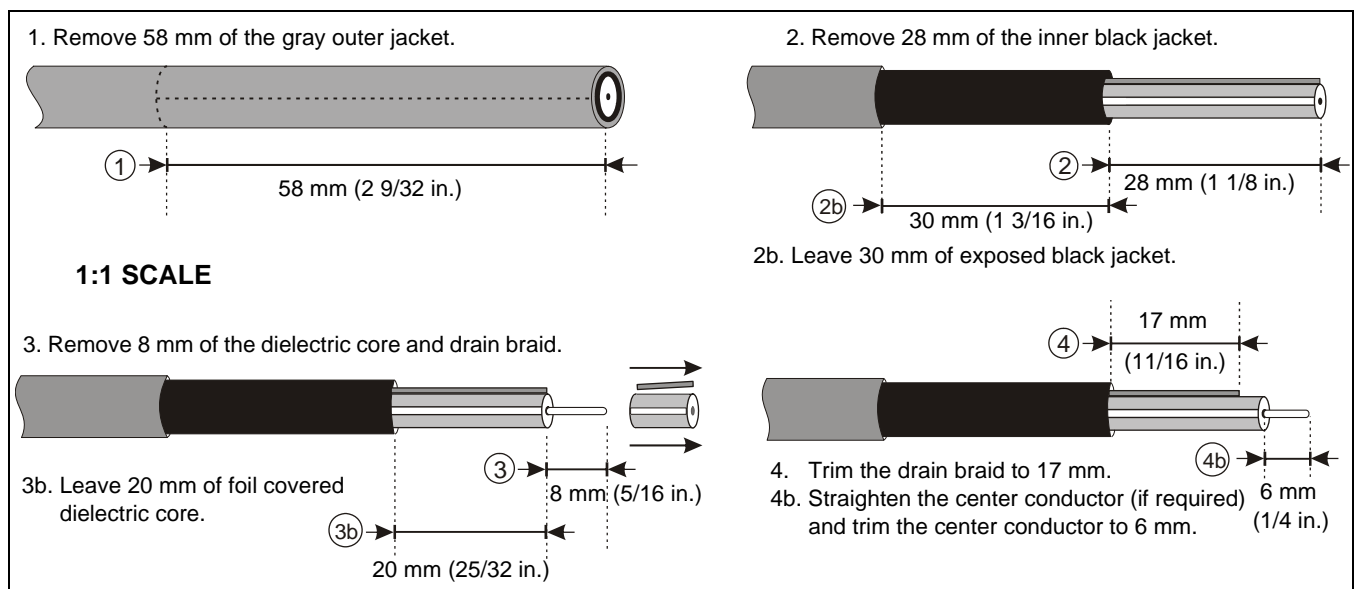

Figure 102: SC1/SC2 cable strip dimensions
2. Use the SC1 and SC2 cable strip dimensions on page 127 and Figure 102: to prepare the sensor cables for connector installation.
5. Refer to Figure 102: to prepare the sensor cables for connector installation.
Note Figure 102: provides a 1:1 scale for stripping the sensor cables. Follow the cable strip dimensions exactly, as the dimensions are critical to connector installation.